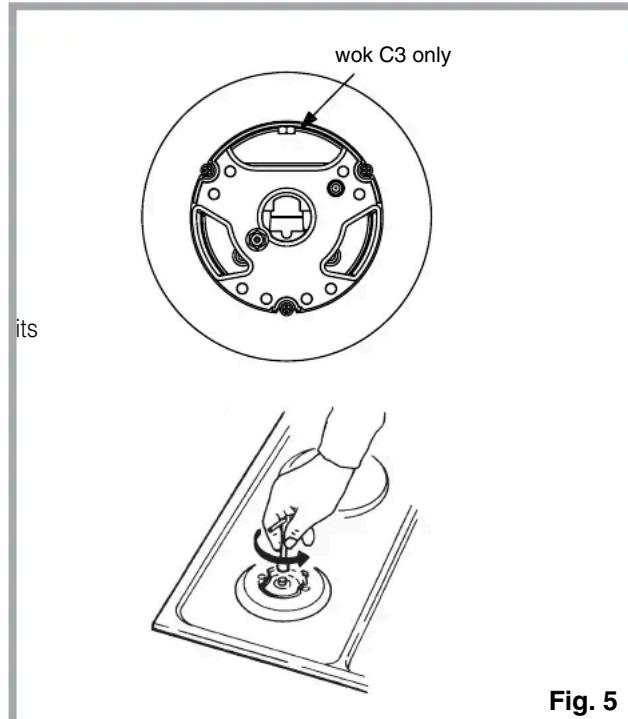

Fig. 5
Adaptation to various types of gas (Fig. 5)
- replace the injectors (Fig. 5) with the corresponding type of gas to be used (see table "Uses characteristics").